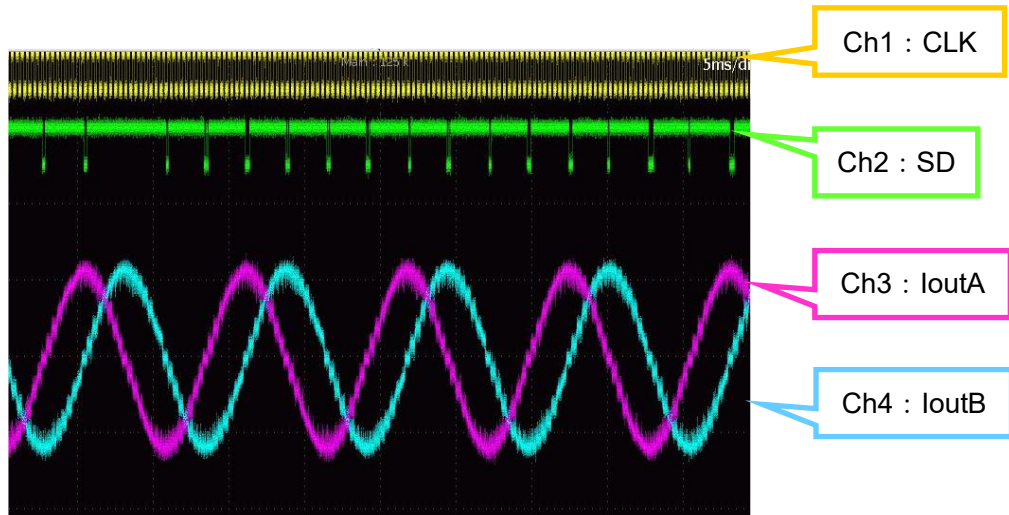

Figure 21. waveforms to check stall detection function (for reference)
(2) The common trends are as follows:
- First, waveforms should be displayed on an oscilloscope as shown in Figure 21.
- Figure 21 is captured using a trigger where SD pin switches H to L.